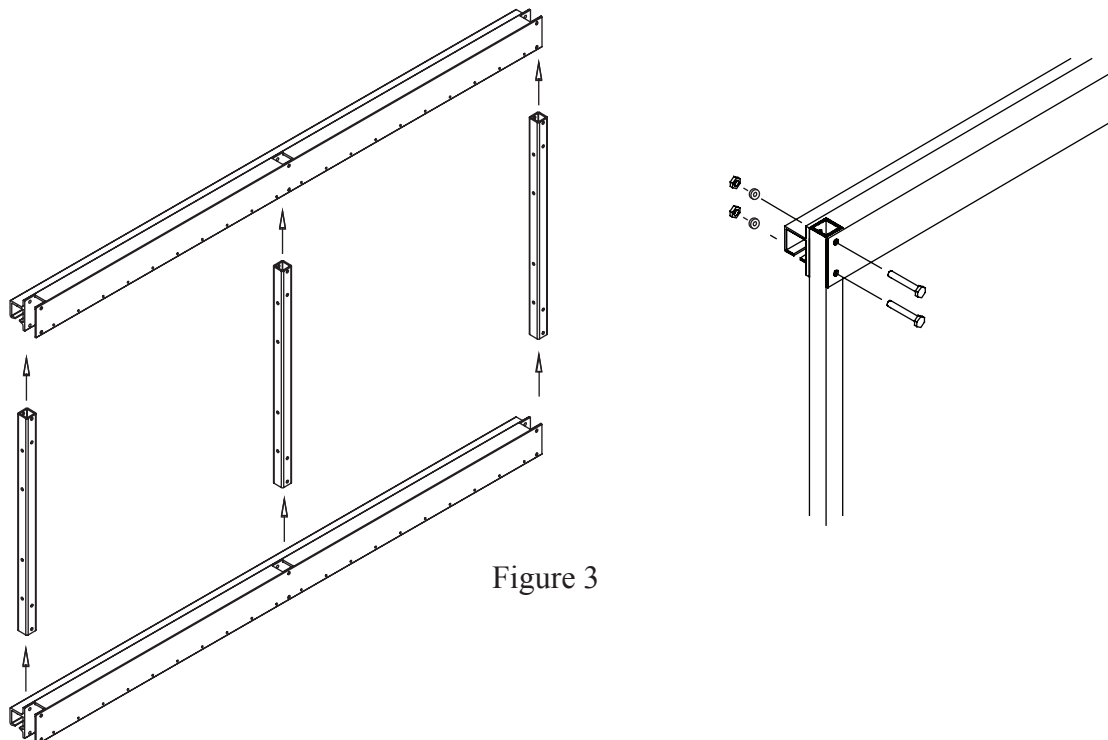

Figure 3
4. Position top and bottom tracks parallel to each other. Allow sufficient space to layout uprights between and perpendicular to tracks (see Figure 3). Use diagram in Appendix 1 (Page 6) to ensure correct location and orientation of each upright. Slide uprights into top track and align with pre-drilled holes. Attach with frame bolts (E), flat washers (J), and frame nuts (H). Finger tighten. Bring bottom track over bottom of uprights and align with pre-drilled holes. Attach with frame bolts (E), flat washers (J), and frame nuts (H). Finger tighten.